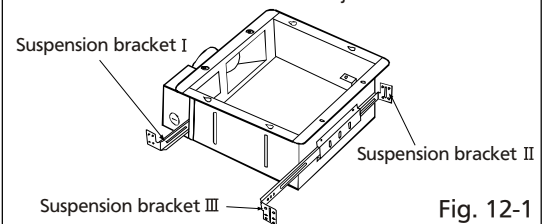

Fig. 12-1
2. Insert the suspension bracket into bracket cover of adaptor side and the back of the fan body. (Fig.12-1,12-2) (select the suspension bracket according to spacing A as shown right)